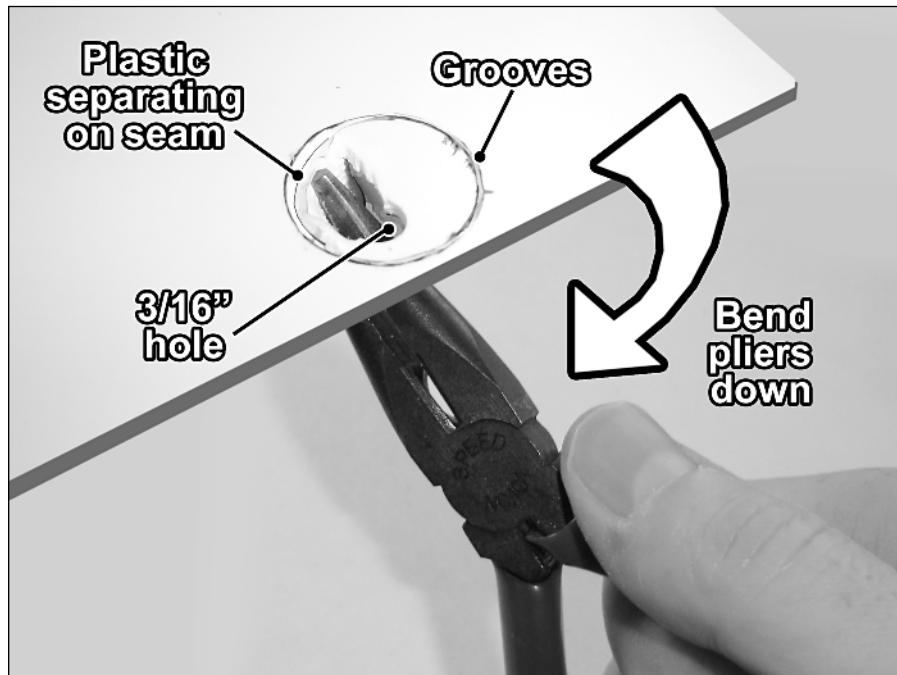

FIGURE 10-3: Bending the shapes out using the pilot holes and a pair of needle-nose pliers.
- Larger shapes: Using your cutters or needle-nose pliers, grab onto the shape from below through the pilot hole. Then rotate the tool to bend the grooves open. (See Figure 10-3.)